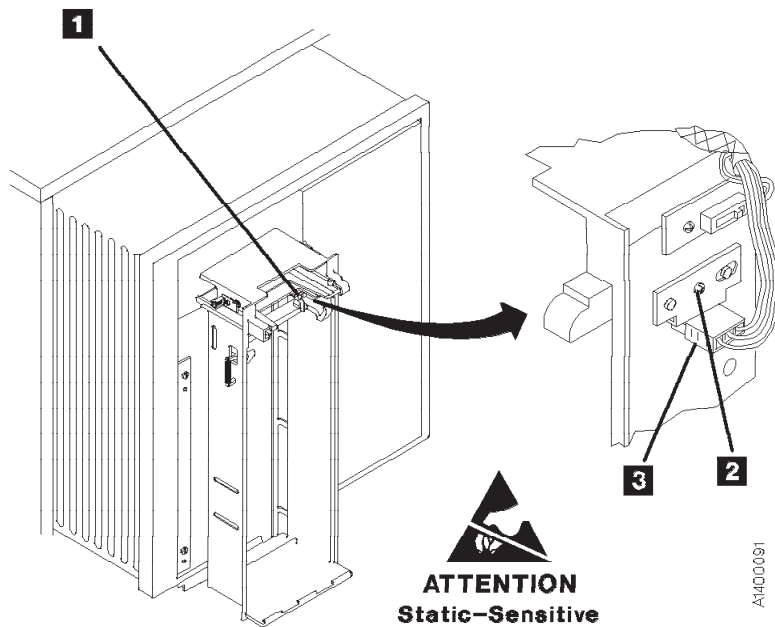

Figure 10-27. Magazine Present Sensor
3. See Figure 10-27. Disconnect the magazine-present sensor connector MP **3**.